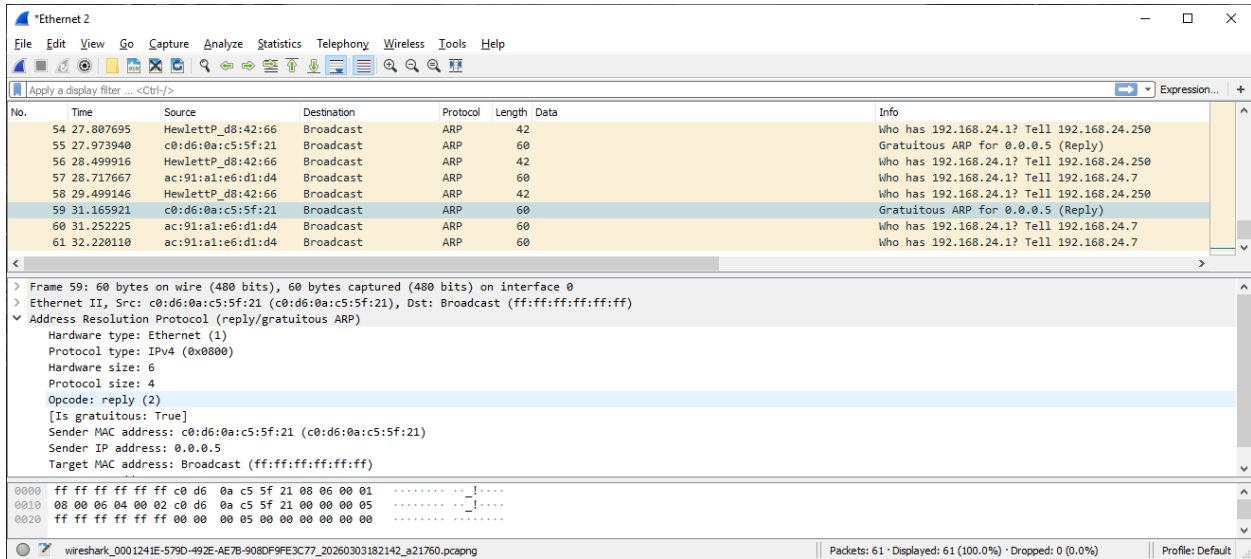

Figure 7 - Wireshark capture of the “Gratuitous ARP” packets sent out by a WSA unit announcing its own IP address
WSA's ethernet port directly, turn on WSA, and check the IP packets sent out by WSA as shown below in Figure 7.
As shown in Figure 7, a WSA unit, once turned on, has been programmed to broadcast periodically its own IP address using the “Gratuitous ARP” or “Reverse ARP” protocol. The packet content indicates that this particular WSA unit’s own sender IP address in this case is “0.0.0.5”, the default. If it were something else, it would be shown here.
1. Find the “problematic” WSA’s MAC address using Wireshark as shown in Figure 7, where the source MAC address is: c0-d6-0a-c5-5f-21.